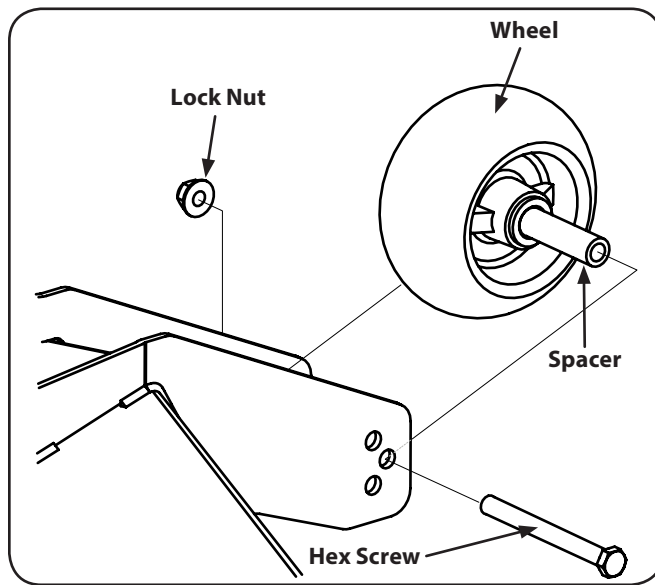

Figure 3-8
2. Remove the lock nut securing one of the front gauge wheel hex screws to the deck. Remove the gauge wheel, hex screw and spacer. See Figure 3-8.